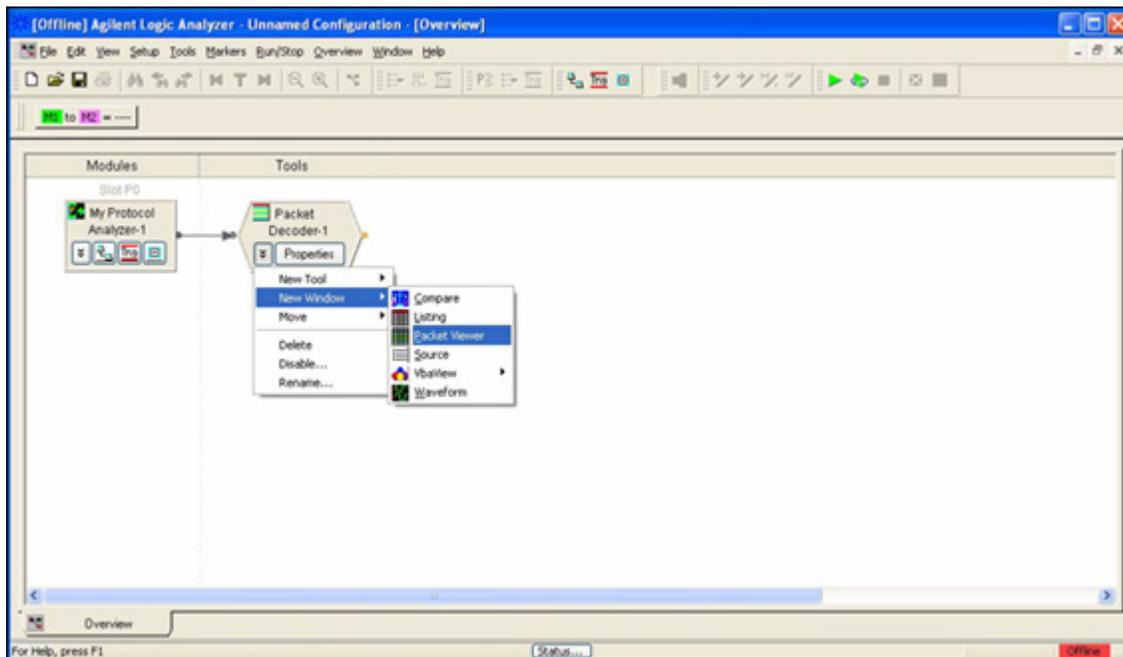

Figure 49 Packet Viewer
- 2 Select **New Window > Packet Viewer** as shown in the Figure 49.